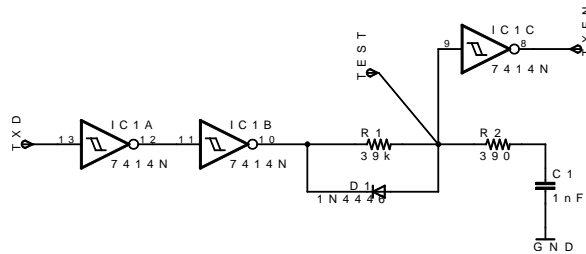

Figure 8: Auto-enable for 75176 line driver
1. Develop a simulation model for the circuit in Figure 8. If the logic part model is not available, simulate only the analog portion of the circuit (Figure 9). An open source circuit simulator is available at: qucs.sourceforge.net.